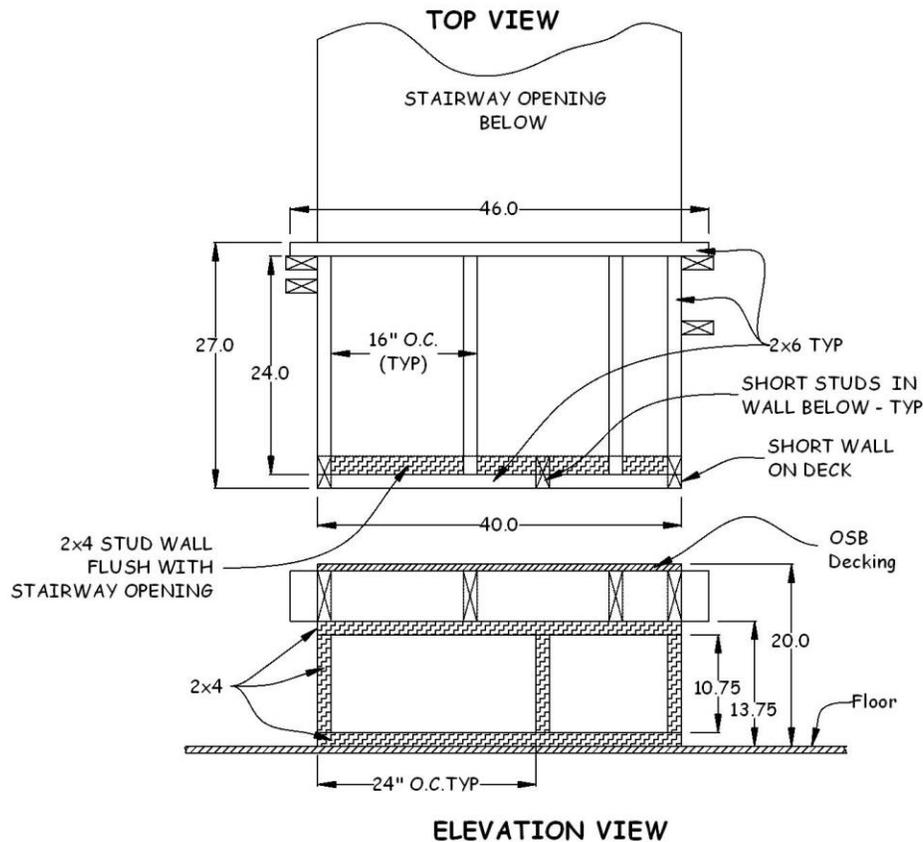

Figure 6-8. Closet Over Stairway.
- 2x6 will not interfere on either side (see Figure 6-8). Once the platform is in place, with one end sitting on the short, 2x4 stud wall at the end of the opening, the other end will extend 24" over the opening. Adjust if necessary so long as the platform does not extend more than 24".